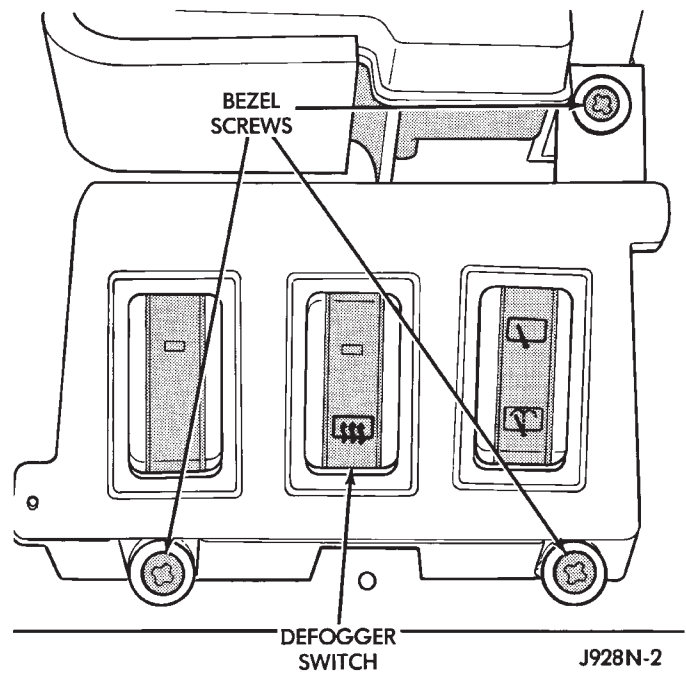

Fig. 4 Defogger Switch Remove/Install—YJ
- (2) Slide bezel toward the steering wheel.
- (3) Remove 3 screws (Fig. 4).
- (4) Unplug the connector from the defogger switch.
- (5) Squeeze the ends of the switch to release the plastic retaining fingers and push outward.
- (6) Reverse removal procedures to install.